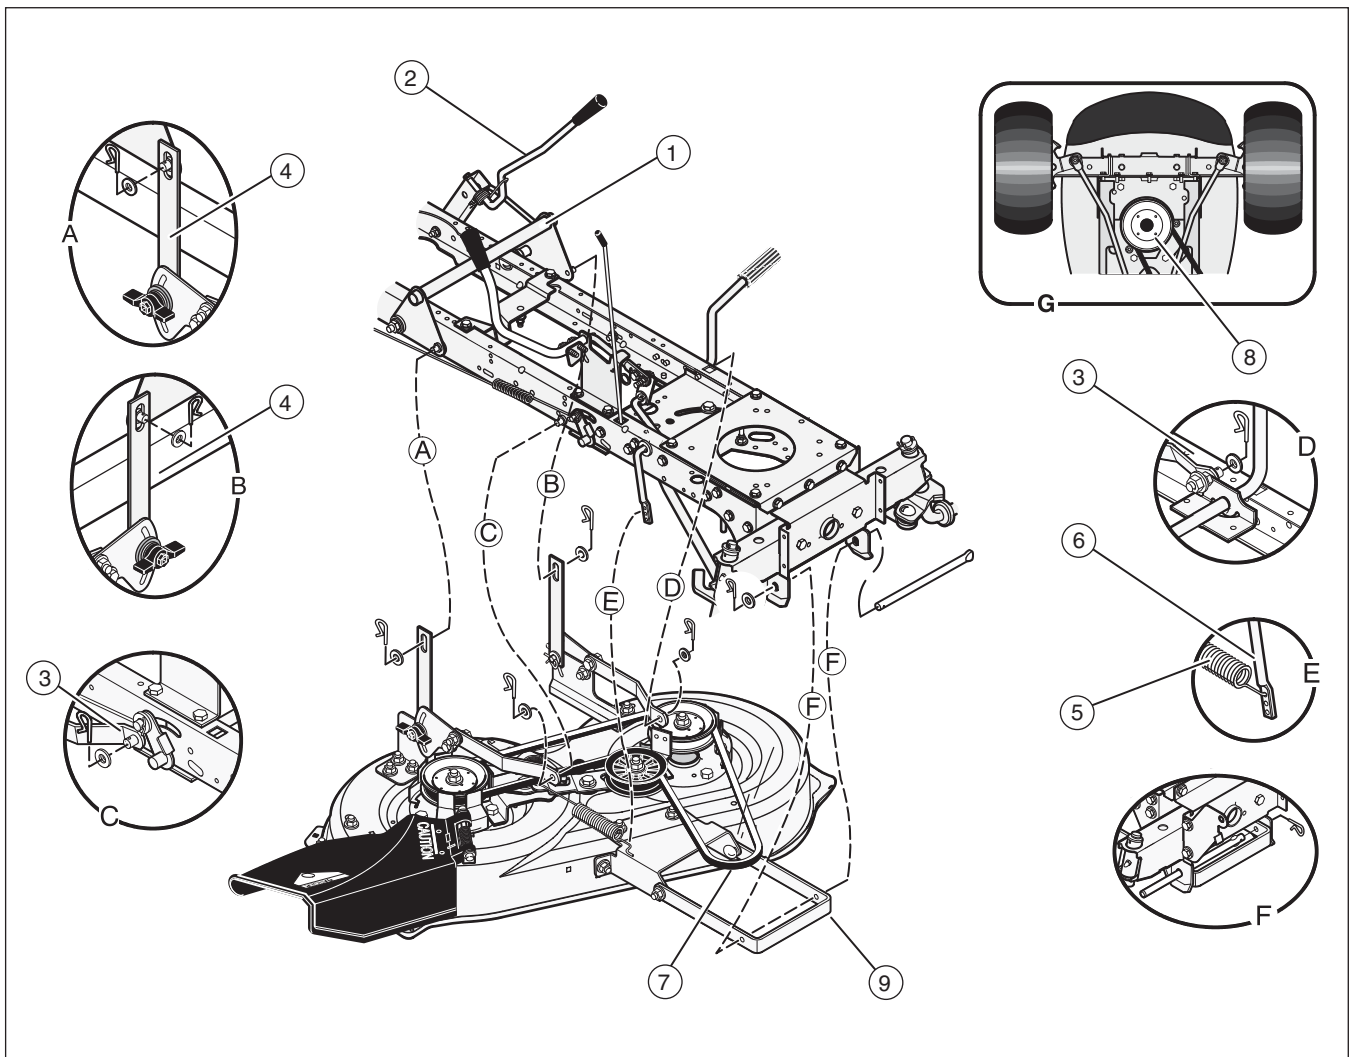

Figure 22
1. Move the blade rotation control (1) to the DIS-ENGAGE position (see **Figure 22**).
2. Move the lift lever (2) to the level adjustment position.
3. Remove the hair pins and the washers from the adjuster arms (3). See illustrations "C" and "D".
4. Remove the hair pins and washers from the suspension links (4). See illustrations "A" and "B".
5. Disconnect the extension spring (5) from the blade control rod (6). See illustration "E".
6. Disconnect the front hanger (9) from the axle support. See illustration "F".
7. Remove the mower drive belt (7) from the stack pulley (8).